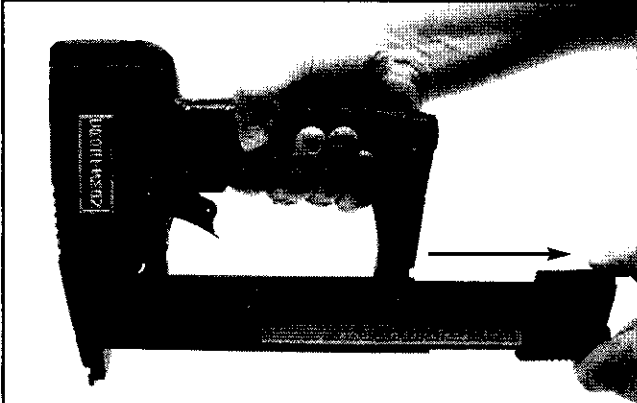

Figure 2 - Open Magazine
Refer to Figures 2, 3 & 4 (page 4).
- Depress latch and slide magazine cover open (see Figure 2).